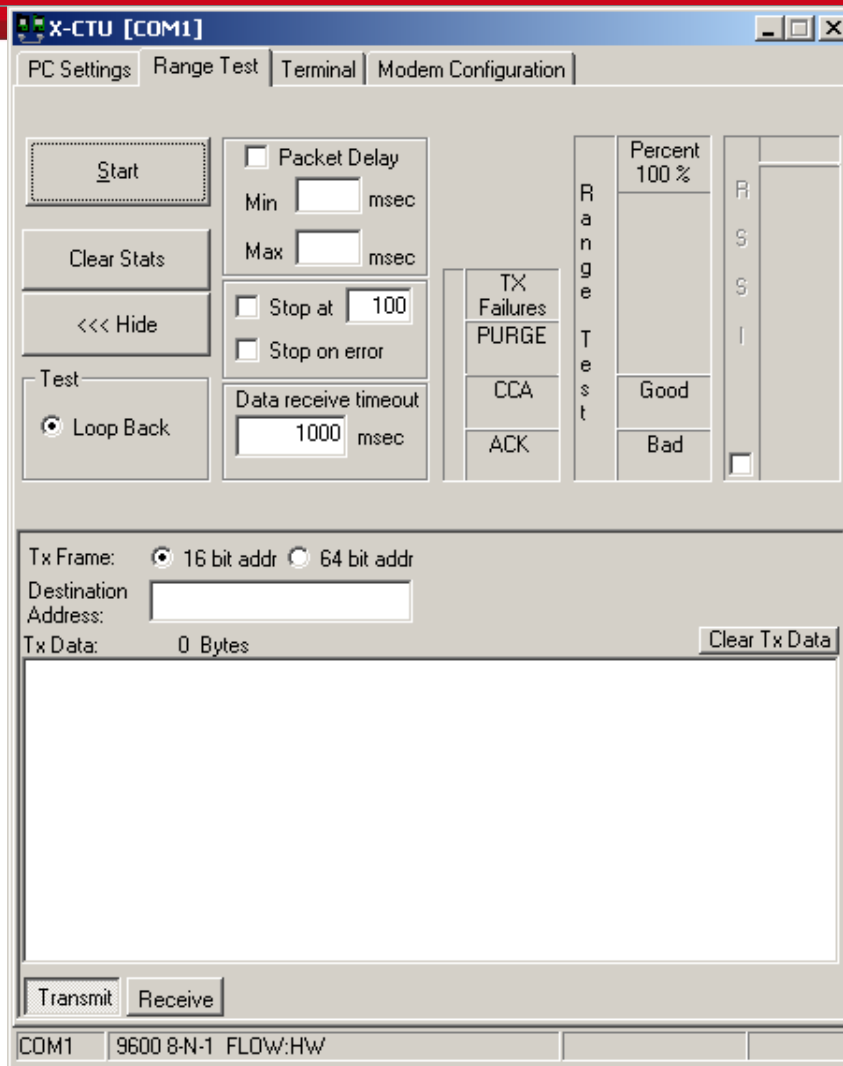

Figure 6
- 5: Enter either the 16 bit or 64 bit destination address of the remote radio into the Destination Address box on the Range Test tab (See figure 6).